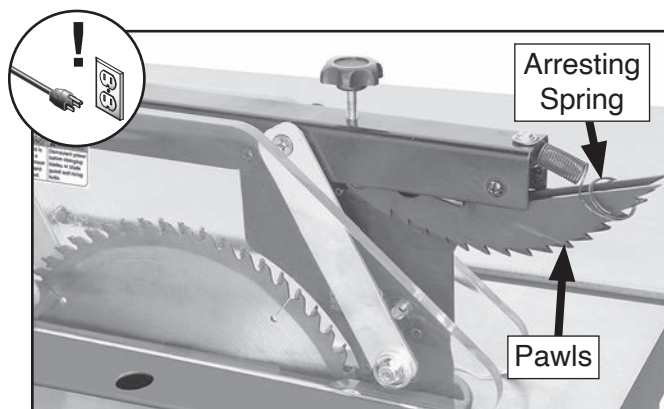

Figure 48. Pawls disabled.
2. Rotate one or both of pawls upward, then place arresting hook(s) in arresting spring, as shown in **Figure 48**.